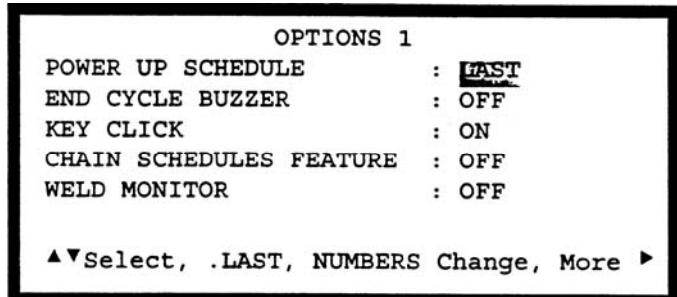

Figure 7-2. OPTIONS 1 Screen
- 2 Select OPTIONS. The last OPTIONS screen displayed will appear. Press the [►] key until the OPTIONS 1 screen is displayed. Five items appear as shown in Figure 7-2.
POWER UP SCHEDULE (Figure 7-2)
END CYCLE BUZZER (Figure 7-2)
KEY CLICK (Figure 7-2)
CHAIN SCHEDULES FEATURE (Figure 7-2)